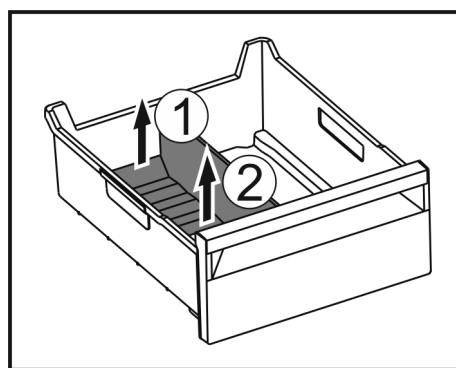

Fig. 237
- ▶ Lift the rear part of the ice compartment divider. Fig. 237 (1)
- ▶ Remove the ice compartment divider upwards. Fig. 237 (2)